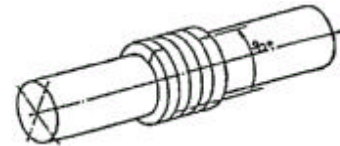

Fig. 14 - Rings position with Ends 90° from each other
- l) The packing rings should be mounted with their ends 90° from each other (See Fig.14). The lantern ring must be in the proper location from the inner edge of the packing chamber.